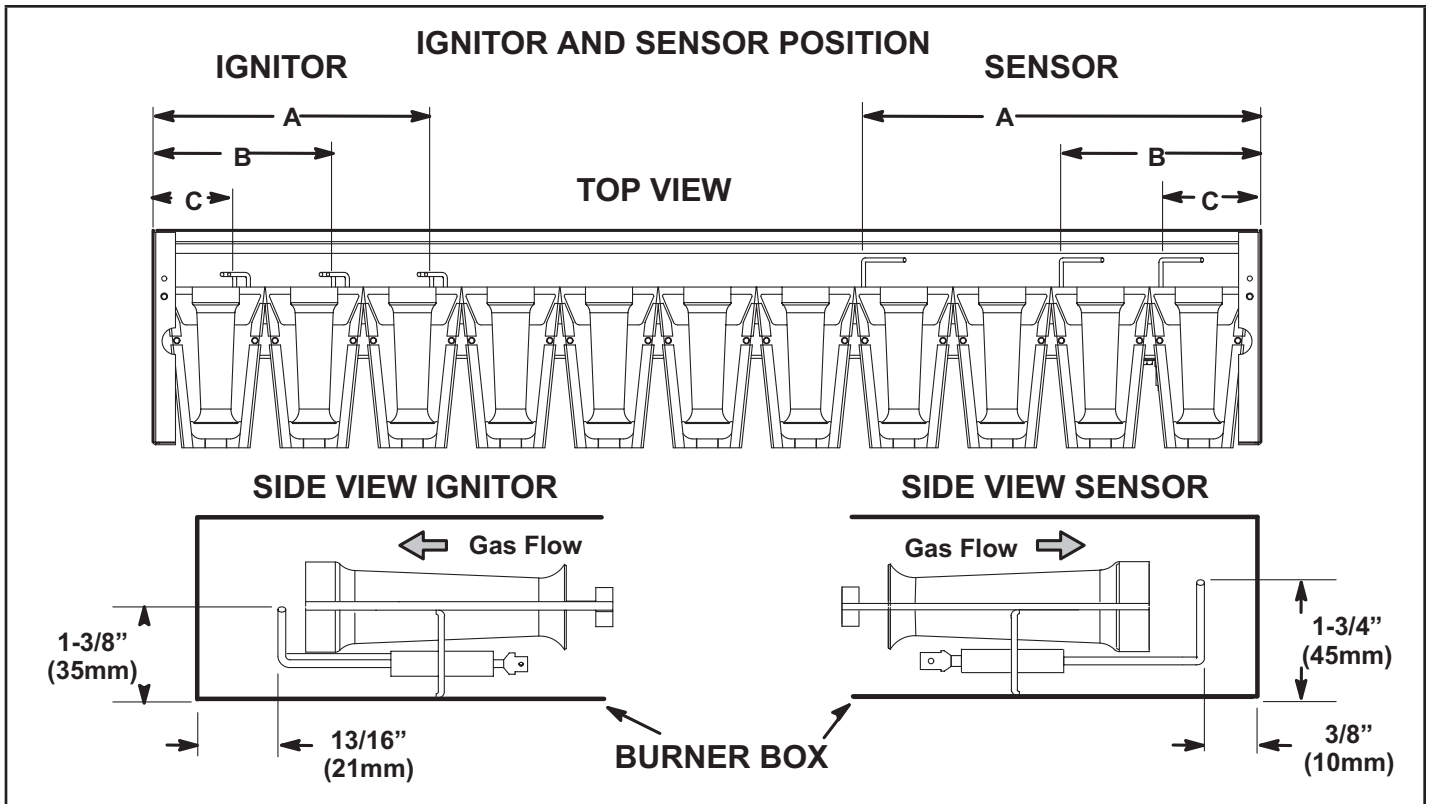

FIGURE 40
- 5 - Check the alignment of the ignitor and the sensor as shown in FIGURE 40 and TABLE 16.